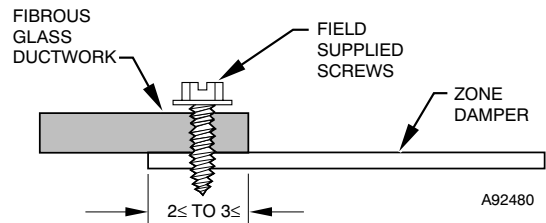

Fig. 7 – Rectangular Fibrous Glass Ductwork
1. Insert one end of the zone damper into the fibrous glass ductwork end approximately 2 to 3 inches (See Fig. 7).